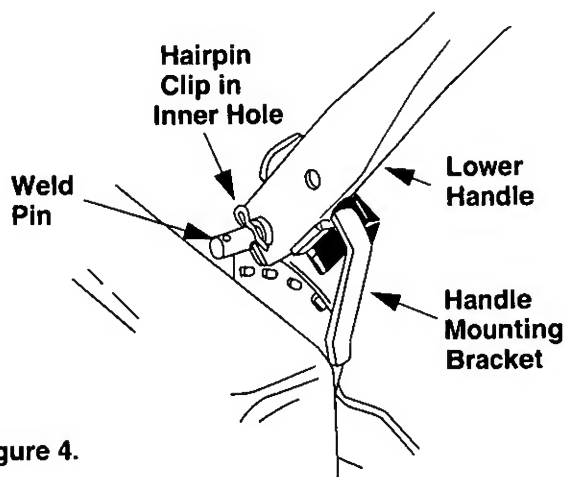

Figure 4.
- Repeat on other side. See figure 4.